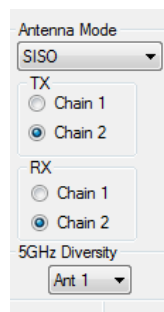

Figure 12. Antenna Mode Area of the RT^3 Window
Figure 12 shows the Antenna Mode area, used to select the antenna mode. MIMO and SISO antenna configurations are available at the 20-MHz bandwidth.
2. In the Antenna Mode area of the main working window, select Ant 1 or Ant 2 (see Figure 12) from the 5GHz Diversity drop-down menu.